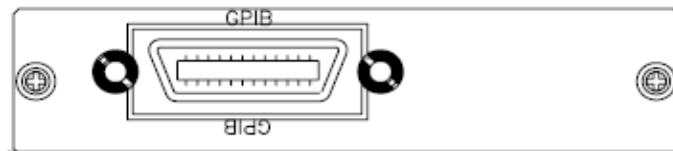

Fig 2-5 3305F REAR PANEL
- Please make sure the lock screws are firmly hand-tightened, use a Screwdriver only for the removal of screws. Fig 2-5 shows the rear Panel of 3305F mainframe, The GPIB address of the 3305F mainframe is set on Front panel.